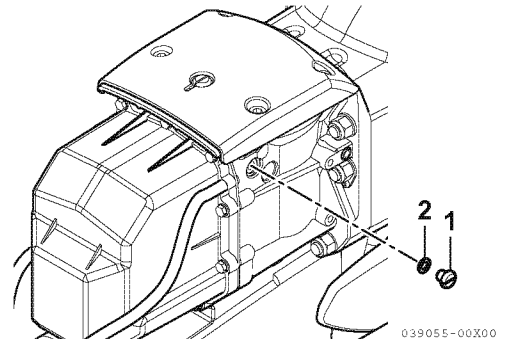

Figure 14
- 1- Remove the oil vent plug (1, **Figure 14**) and gasket (2, **Figure 14**).